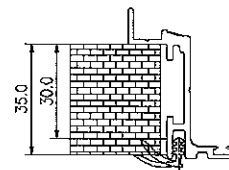

Fig.10
- 1) When the wall thickness is 30-35mm, use rubber trim (MD-XJT-002) as in Fig. 10.